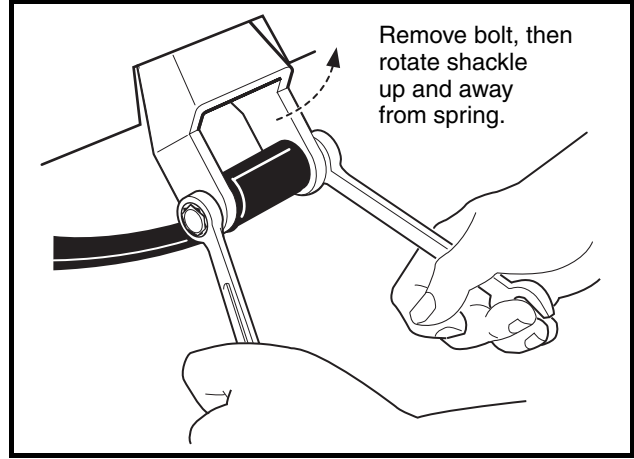

Figure 17-6 Rear Shackle
4. Place chocks at the front wheels and lift the rear of the vehicle just enough to relieve tension from leaf springs, then remove the bolts securing the leaf springs to the shackles (**Figure 17-6, Page 17-5**).